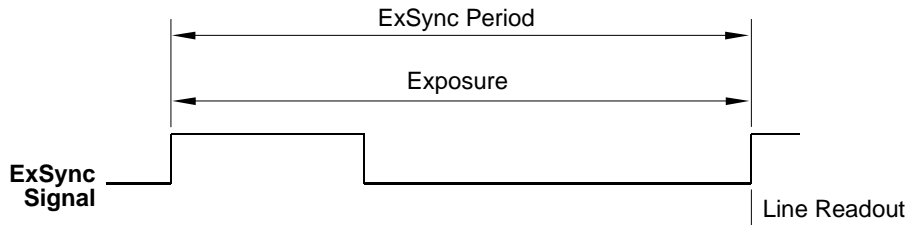

Fig. 51: ExSync Edge Controlled Mode
- In **ExSync edge controlled** mode, line acquisition begins on the rising edge of the ExSync signal. The pixels are exposed and charge is accumulated over the full period of the ExSync signal (rising edge to rising edge). The falling edge of the ExSync signal is irrelevant. The pixel values read out of the sensor on the rising edge of ExSync (see Figure 51).